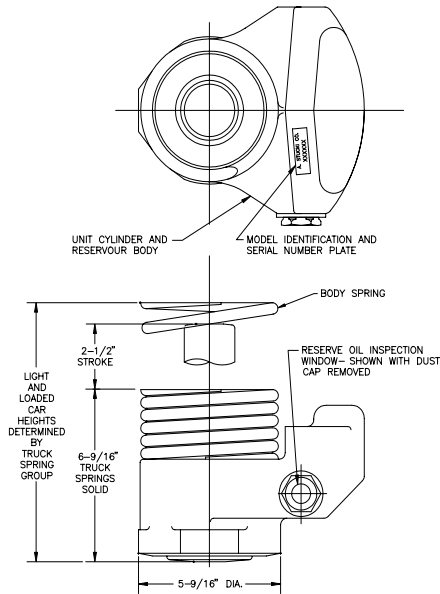

Figure 1. HS-7/SV-7 Identification
The model is identified on the unit serial number tag as shown in Figure 1. Whenever a Stucki stabilizer is to be replaced, it is important that it be replaced by a unit of equal capacity rating. Factory rebuilt units will have the letters "RB" and the date they were rebuilt stamped on the model identification tag.
An HS-7 stabilizer, as received, consists of three separate elements which are identified in Figure 1. The unit itself is packaged in a polyethylene bag containing a vapor-phase inhibitor to dispel moisture, thus preventing corrosion of the chrome-plated piston rod. However, units should not be stored outdoors any longer than necessary. Incoming stock should be rotated so that first received are the first used. Do not remove units from bags until ready to use. Contact A. Stucki Company before applying units which have been in prolonged storage unprotected from moisture.
The body spring and retainer assembly are normally shipped in the same cartons or crates as the units themselves. These must be assembled onto the stabilizer (see Figure 1) prior to installation of the unit into the spring nest.
3. Place the body spring over top of the unit as shown in Figure 1.
The HS-7/SV-7 incorporates a low pressure seal on the piston rod which characteristically will pass slight amounts of oil under normal operating conditions. This lost fluid is compensated for by the reserve oil in the unit which comprises about 45 percent of the total oil volume of 1350 ml. (46 ounces). The availability of reserve oil can be checked by visual inspection of the sight gage or window in the plug on one side of the reservoir (see Figure 1).